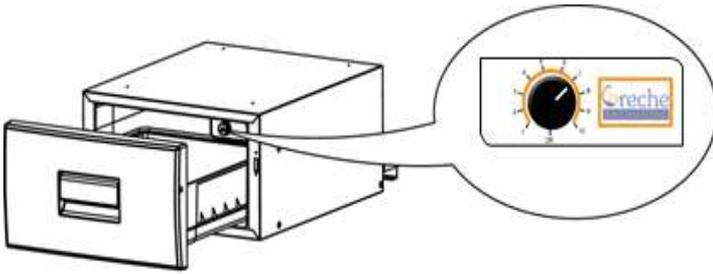

Figure 1.
- If you wish to set the temperature to **cooling**, turn the thermostat knob clockwise (see fig. 1), to the desired temperature range.